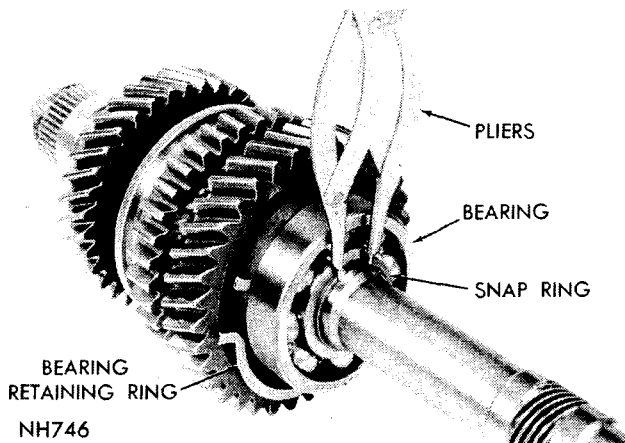

Fig. 19—Removing or Installing Mainshaft Bearing Snap Ring—Rear
(16) Remove snap ring that retains mainshaft bearing on the shaft (Fig. 19).
(Fig. 19). This snap ring is a select fit for minimum end play.